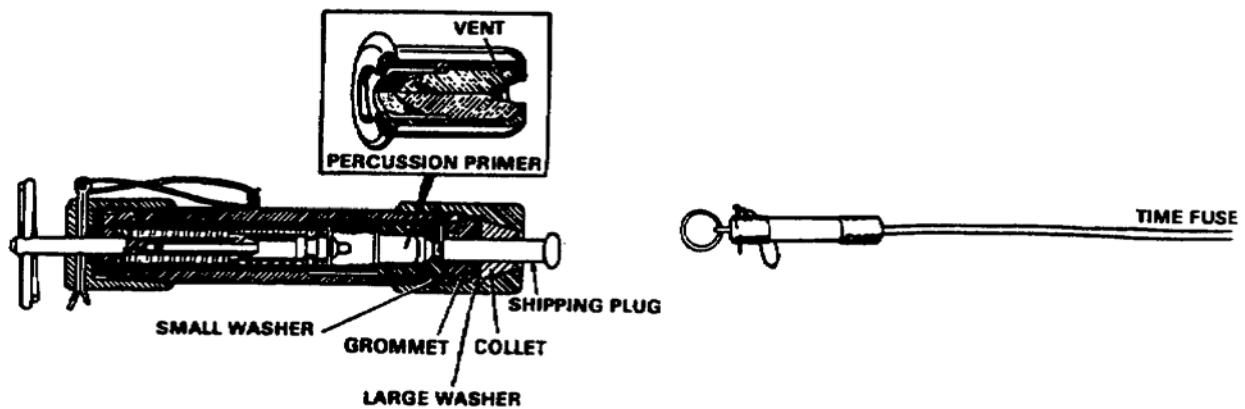

Figure 10. M60 weatherproof fuse igniter.
M60 Weatherproof Fuse Igniter. This device (Figure 10) is designed to ignite a time fuse in any sort of weather conditions. The fuse is inserted through a split collet, which clutches the fuse, and into a sealing rubber grommet, which helps to weatherproof the fuse-end.
- Press the shipping plug (Figure 10 on page 18) into the igniter and rotate the plug as you remove it.